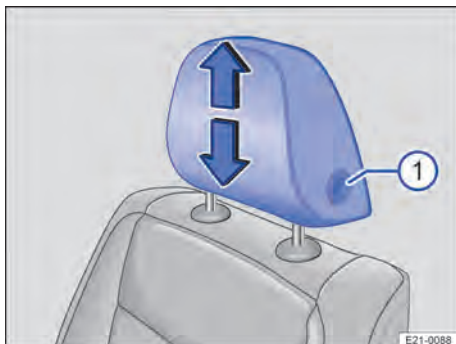

Fig. 70 Front seat: adjusting the head restraint.
1. Push the head restraint up or down while pressing and holding the button → Fig. 70 ⓘ.